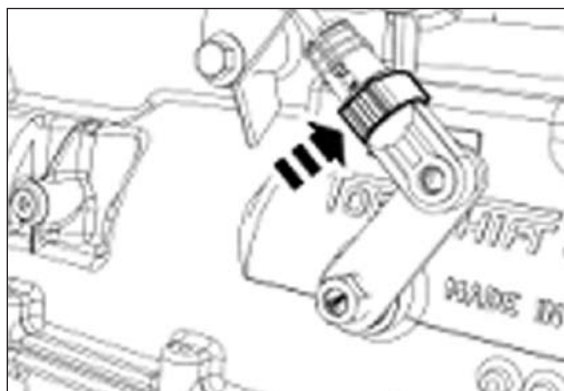

Figure 87
8. Slide the adjuster tab in place to lock the selector lever cable (**Fig. 87**).